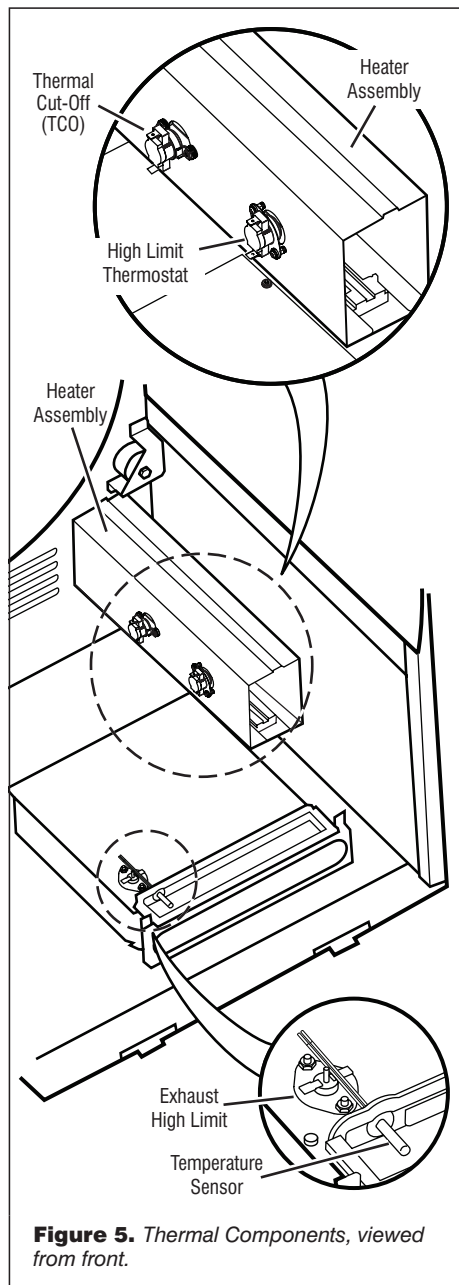

Figure 5. Thermal Components, viewed from front.
6. Check the resistance value of the motor capacitor. See figure 5, page 4 for location.
- 2.** Remove the toe panel to access the thermal components. See Removing the Toe Panel, page 7. Locate the components using figure 5.
- 4.** Locate the high limit thermostat. See figure 5. Measure the continuity through it by connecting the meter probes to the red and black wires.
- 5.** Locate the thermal cut-off (TCO). See figure 5. Measure the continuity through it by connecting the meter probes to the red wires.
- Check wire connections at the machine control electronics and temperature sensor. See Accessing & Removing the Electronic Assemblies, page 6, and figure 5 for temperature sensor location.